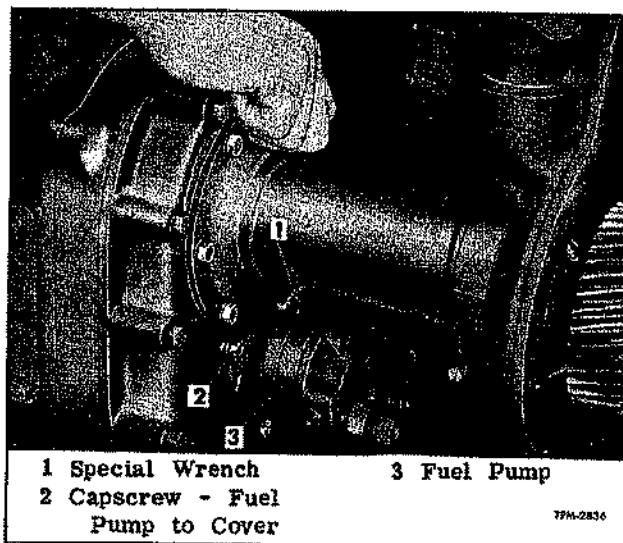

Figure 27—Fuel Pump Mounting and Use of Special Wrench
2. Remove the three pump flange-to-blower end cover cap screws. Cap screw next to the cylinder block can be removed readily with special wrench or, if not available, a similar tool as illustrated in figure 27. Withdraw pump straight out from rear blower end plate cover.